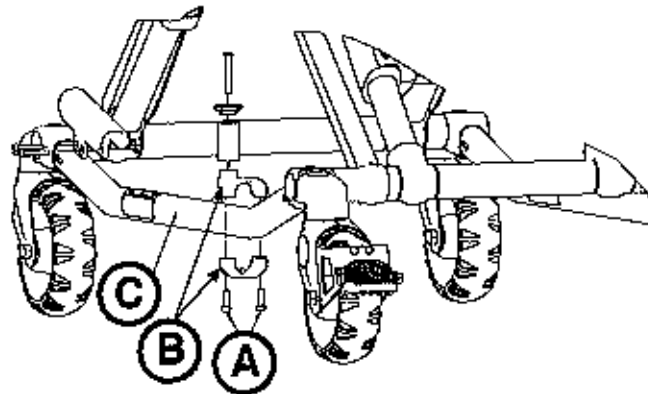

Figure 53
1. Using a T30 Torx driver, remove the two socket head cap screws (A) that hold the brackets (B) to the base frame (C) (Figure 53). Save both screws for reinstallation.